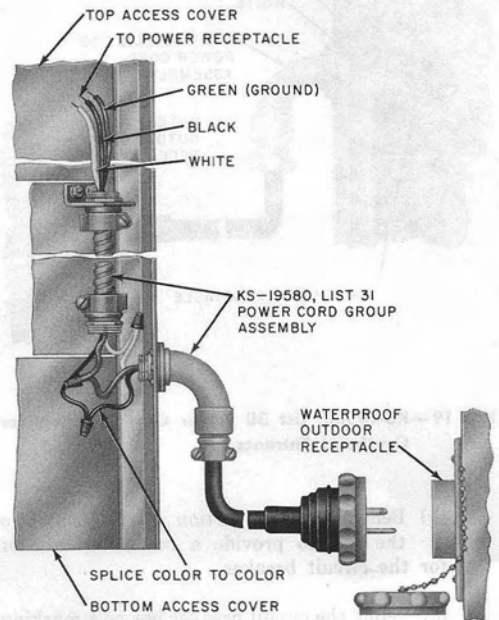

Fig. 18—KS-19580, List 31 Power Cord Group Assembly for Ground Level Entrance
3.10 Refer to 2.13 for available cords and Fig. 18 and 19 for their usage.